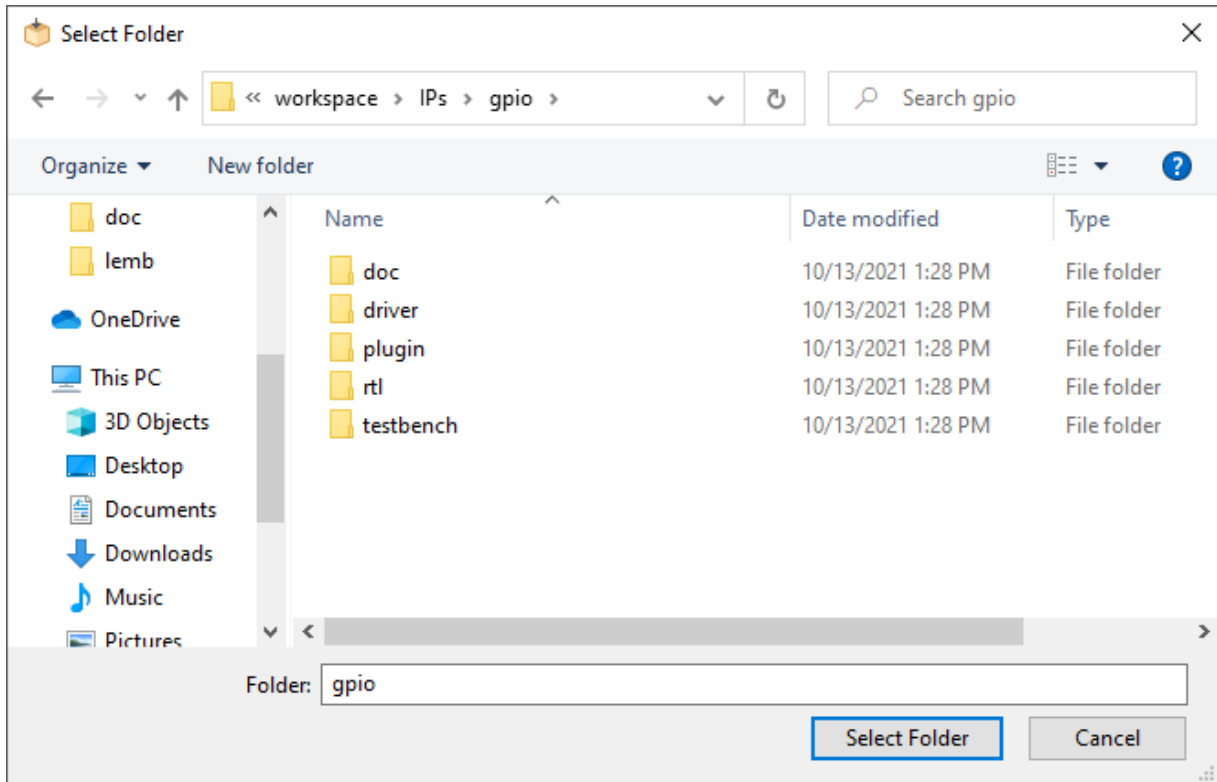

Figure 3.4. Select Folder Dialog
1. Choose **File** >  **Open IP Directory** from the Propel Builder Menu or Click the **Open Design** icon  from Propel Builder Toolbar. The Select Folder dialog opens (Figure 3.4).